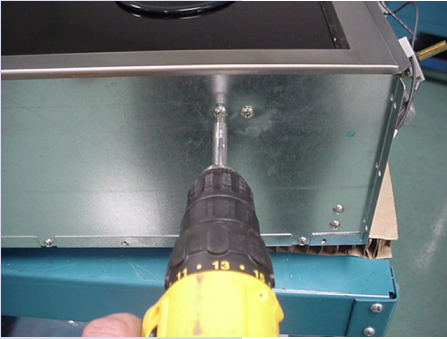

Figure 4
4. To remove the glass cooktop, you must remove the 4 screws that are on each sides . (Figure 4)